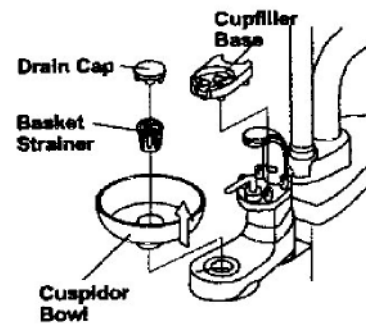

Fig.4-1 Cuspidor Bowl, Drain Cap and Basket Strainer
(1) Cuvette de crachoir (Fig.4-1)